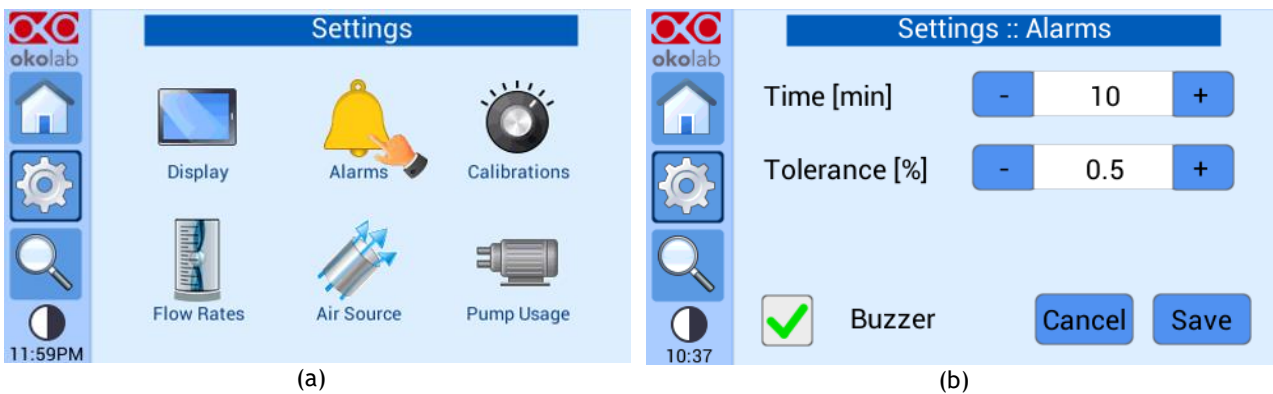

Figure 28. Alarms settings. (a) How to enter the Alarm setting menu; (b) Alarm configuration
To set the alarms specifications, press on the Alarms icon ; see Figure 28(a) then follow the indications below:
1. Insert the alarm time; i.e. the time for which the CO2 concentration may remain outside the allowed tolerance before the controller triggers in alarm, see 1 in Figure 28(b)
2. Insert the *Tolerance* value, see 2 in Figure 28(b). This value defines the allowed tolerance form the set point.
3. Flag the tab labeled *Buzzer* if you want the alarm to be acoustical, additionally to being visual, see Figure 28(b)